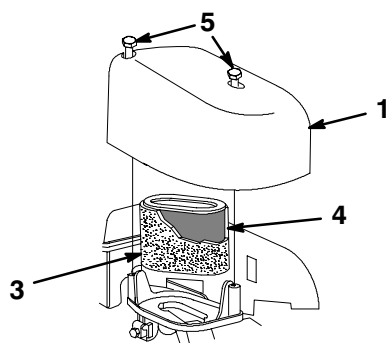

Figure 19
3. Remove the screws that secure the air cleaner cover (Fig. 19).
4. Remove the cover and clean it thoroughly (Fig. 19).
6. Wash the pre-cleaner with a mild detergent and water, then blot it dry (Fig. 19).
7. Remove the paper air filter and discard it (Fig. 19).
8. Depending on the model, install the foam pre-cleaner either into the cover or on the new paper air filter (Fig. 19).
9. Install the new air cleaner filter (Fig. 19).
10. Install the cover and secure it (Fig. 19).